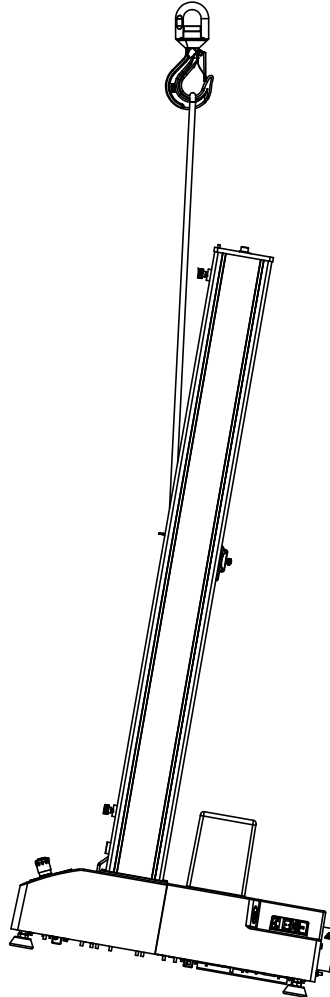

Figure 12. *Lifting Load Frame with a Crane*
1. Attach the lifting sling to the crosshead and secure it to the crane hook such that the sling extends vertically from the FRONT of the crosshead as shown in Figure 12 on page 65. If you use chains in lieu of a lifting sling, wrap protective material around the crosshead to protect the crosshead from scratching and marring.